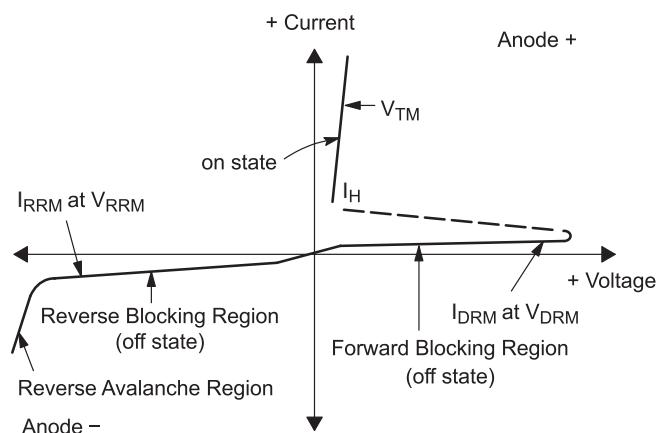

Figure 1. Typical RMS Current Derating
2. Ratings apply for $tw = 1$ ms. See Figure 1 for ITM capability for various duration of an exponentially decaying current waveform, tw is defined as 5 time constants of an exponentially decaying current pulse.
5. Ratings apply for $t_w = 1 \text{ ms}$. See Figure 1 for I_{TM} capability for various durations of an exponentially decaying current waveform.